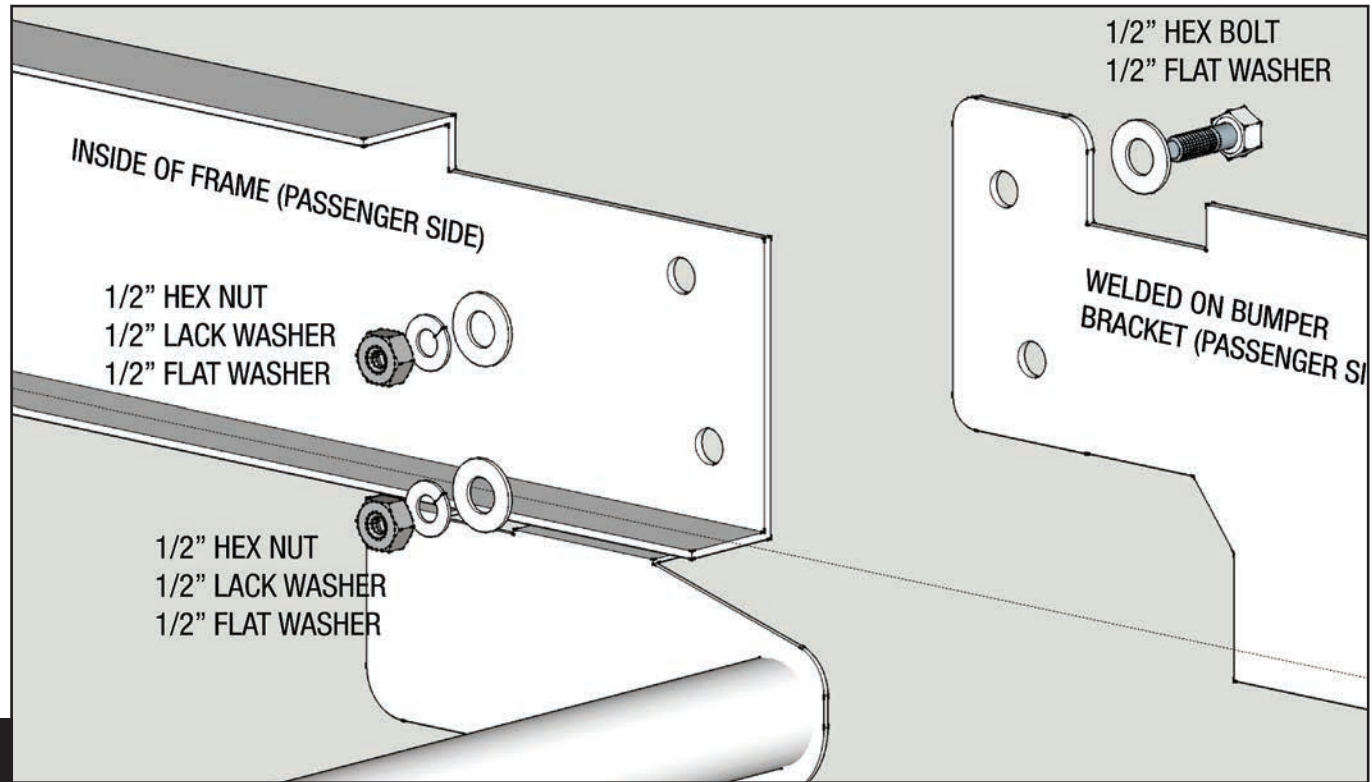

Fig 2
- 2. A) Bolt bumper to frame using supplied hardware: bolts, washers, and nuts. Repeat for other side. Align spare tire access cover with guide tube (**Fig 2**).